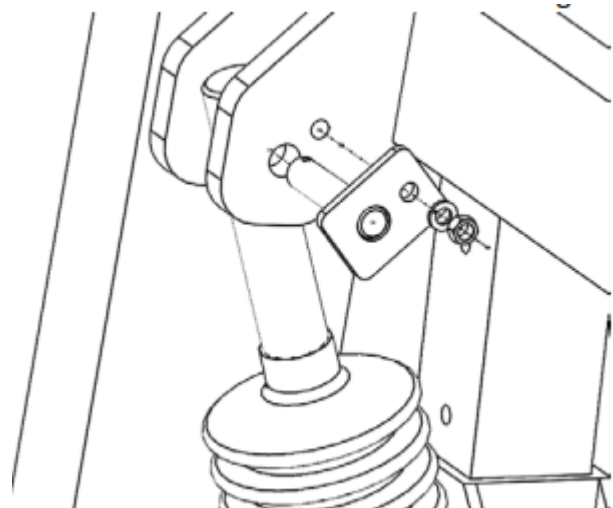

Figure 13
2. Insert one (1) 1" Cylinder Pin into the cylinder mounting plate through the Hydraulic Cylinder upper mounting hole as shown in Figure 13.
3. From the inside of the mounting plate, insert one (1) 3/8" Hex Bolt through the mounting plate and the hole on the Cylinder Pin shown in Figure 13.
4. Attach one (1) 3/8" Lock Washer and one (1) 3/8" Hex Nut to the protruding end of the Hex Bolt and fasten with appropriate wrench until secure as shown in Figure 13.
5. Repeat these steps for the remaining five (5) Hydraulic Cylinders.